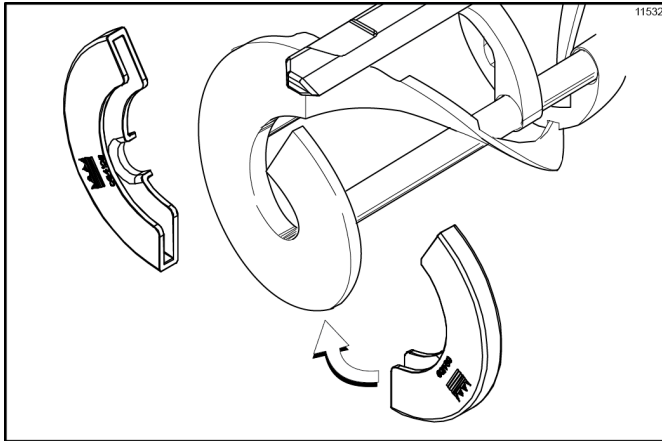

Figure 6-18
7. Install the beater shoes. (See Figure 6-18.)